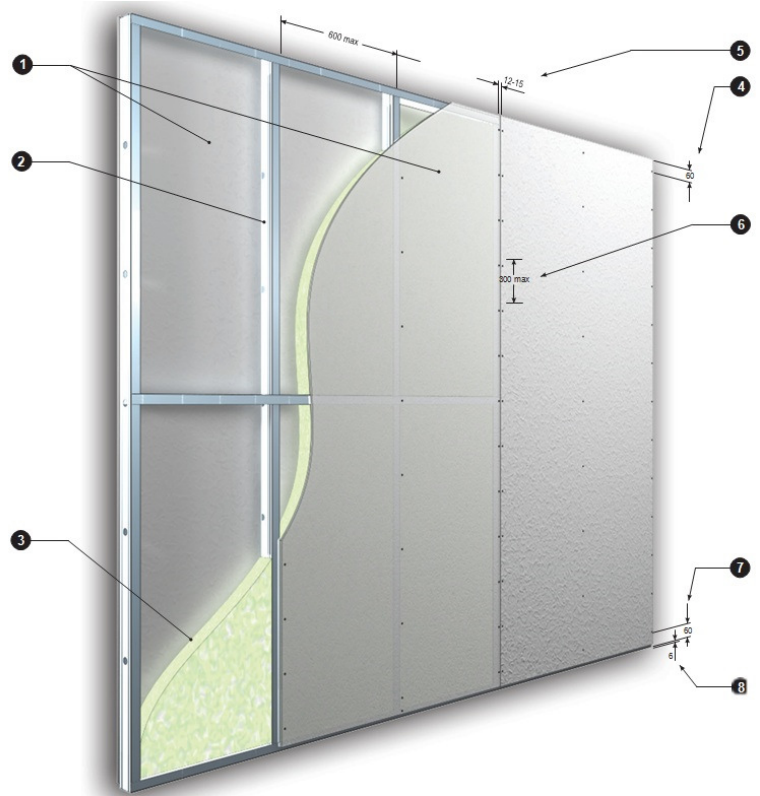

Figure 2.1 - Steel Fire Wall Installation Detail (Vertical)
See figure 2.1 and 2.2 for installation details:
4. On a firewall system do not fix the sheet to the bottom or top plates of the frame. As can be seen in figure 2.1 and 2.2, the screws or nails are 60mm from the top and bottom of the wall, one at each stud.